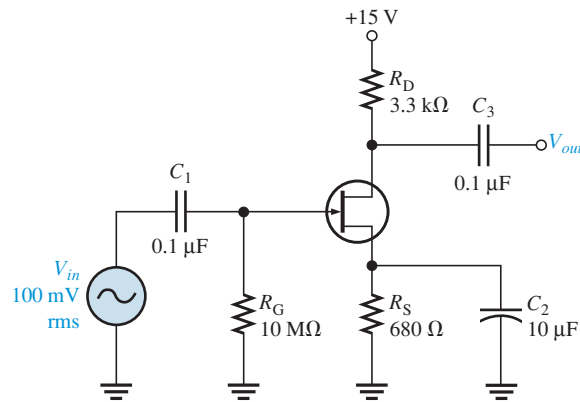

FIGURE 4-43
- (a) What is the dc drain voltage and the ac output voltage of the amplifier in Figure 4-43? The g_m is $1500 \mu\text{S}$, I_D is 2.0 mA , and $V_{GS(\text{off})}$ is 3 V .